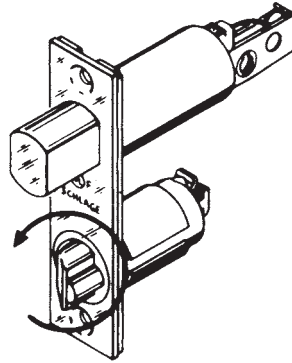

Figure 13.90 Changing hand, Step 21.
21. Turn the deadlatch 180° (Fig. 13.90).